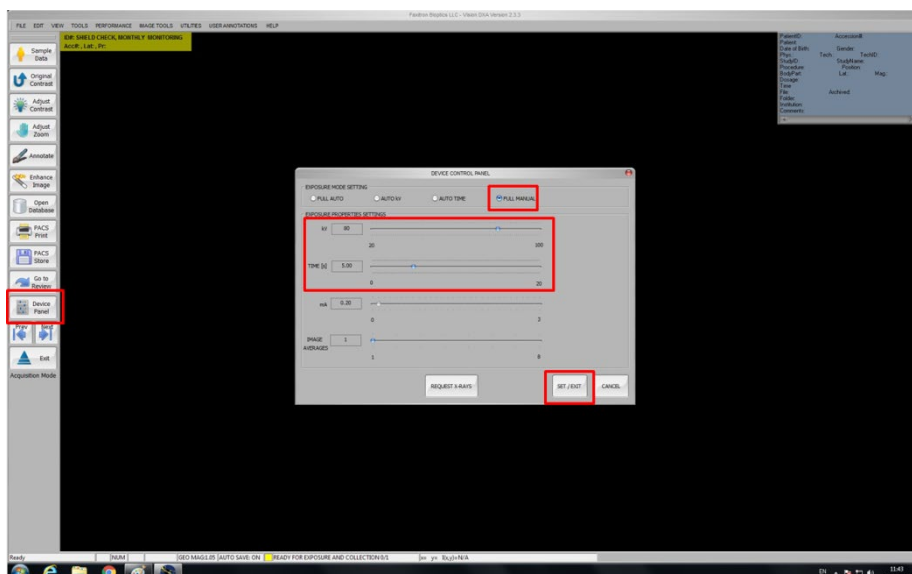

Figure 2: X-ray intensity settings
8. Select “Device panel” from the menu on the left hand side of the screen to open the X-ray control panel (see figure 2):